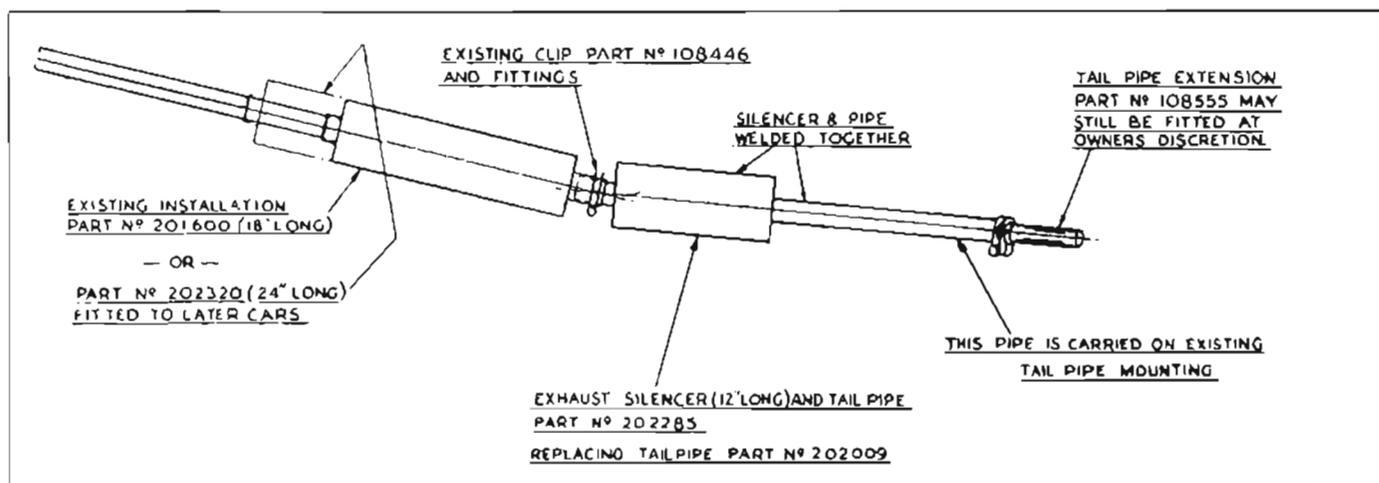

Fig. 2 Method of supplementary silencing provided by 18' Silencer, fitted prior to Com. No. T.S.2532.
Two types of silencers have been used in production, the former 18" silencer being changed for a 24" type at Commission No. TS.2532. A modified tail pipe incorporating a 12" silencer can be fitted, at the owner's discretion, to the shorter type silencer, if the exhaust note is considered too loud (see Fig. 2). This modified tail pipe fits into the main silencer and is attached with the existing clip.
- (c) If the tail pipe incorporating the small silencer is being fitted it is attached in a similar manner to the pipe and uses the existing clips. Fig. 2.